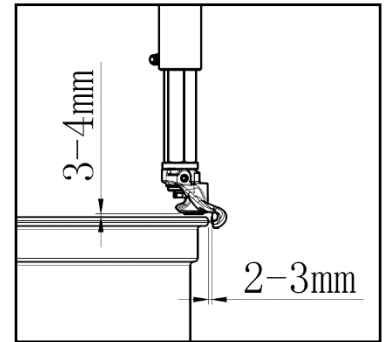
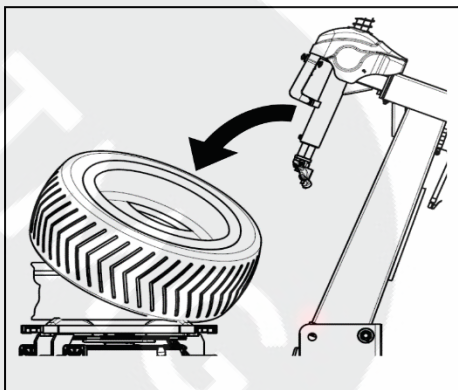

FIG26
FIG30
- Move the hexangular shaft to the working position to make the demount tool close to the rim of the wheel. The cylindrical roller in the demount tool will contact with the external rim of the rim and the bottom of the demount tool will contact with the surface of the rim. Press the lock handle press button (FIG3-3) to lock horizontal arm and hexangular shaft and the hexangular shaft will automatically move upwards. The quadric shaft will automatically backward a little to make the demount tool detached from the rim of the rim to avoid the damage on the rim(FIG26)
- Spread the lubrication liquid or soap liquid around the lip. Tilt the tire against the rim and keep the front end upwards (FIG30). Press down the column tilt pedal (FIG3-10) to make the column return to the original position. Move the demount head to firmly contacted rim (FIG26). Position the left of the lip above the tail of the demount tool and the right under the hump of the demount tool (FIG3).